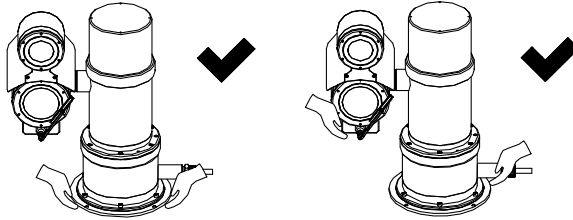

Figure 2-1 Carry the PTZ Camera
- Carry the PTZ Camera as shown in Figure 2-1.